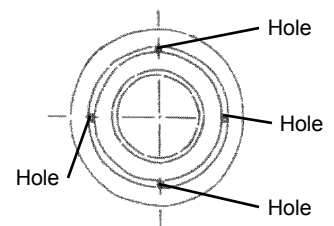

Fig. 2
3. Mark tire with crayon or chalk as shown in fig. 2. Be sure spacing is equal and not too close to the inside.